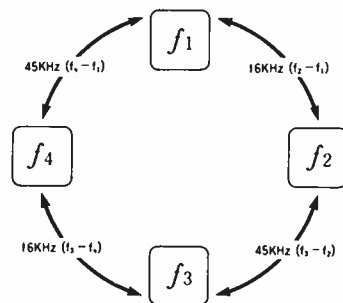

Figure 10. The relationship between the four tracking pilot tones.
**Figure 7. The 8 mm video recording track format. There are two record/replay heads (Ch1 and Ch2) and four pilot tones for tracking (f1 to f4), laid down with the video signal, not along the edge of the tape as with conventional VCRs. This system, proposed by Philips, is called 'ATF' — automatic track finding. The four pilot tones are laid down sequentially — f1 and f3 by the Ch1 head, f2 and f4 by the Ch2 head. (See also Figures 10 and 11).**
In Figure 7 is shown the four pilot tracks recorded side by side —  $f_1$  and  $f_3$  by head 1,  $f_2$  and  $f_4$  by head 2 — in alternate scans. This allows the heads to sample pilot tones on the adjacent tracks e.g. playing Ch2, frequencies on adjacent channels 1 and 3 are also detected and the servo driven so that tape speed and drum rotation speed are kept close to a constant. Figures 10 and 11 detail the pilot tone frequency relationships and how the head overlap picks up the tracking pilot tones during incorrect and correct tracking.